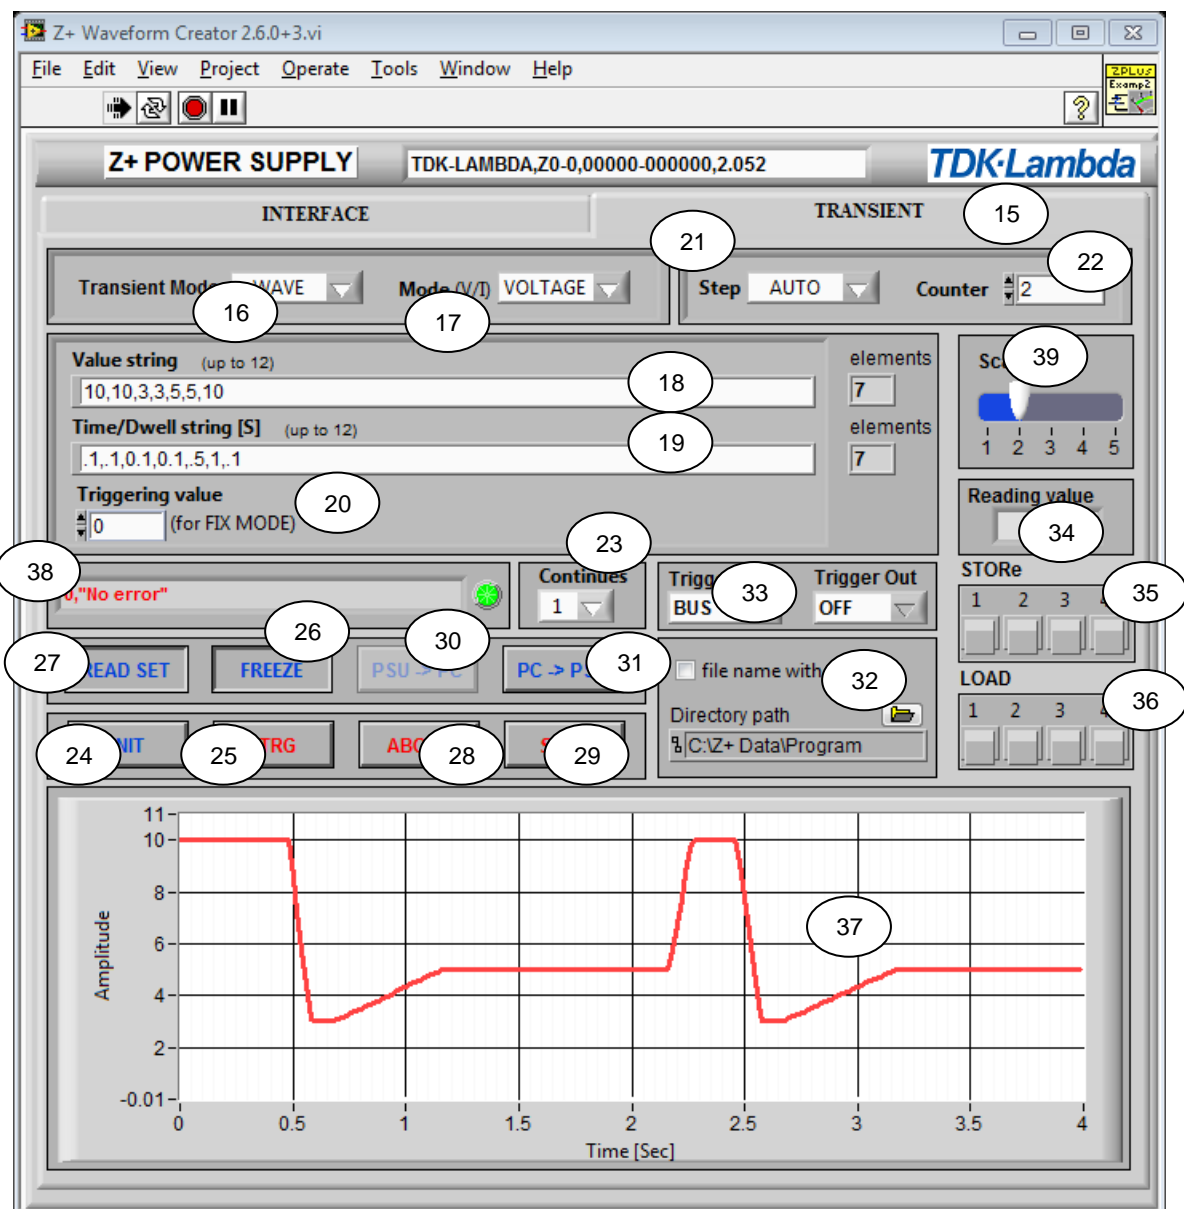

Fig 15
11. The following controls are shown in Fig 15:
- Select Transient Mode (16) Types – WAVE, NONE, FIX, LIST. Example shown – WAVE.
- Mode (17) Types – Voltage, Current, Example shown – VOLTAGE Possible Commands: VOLT (CURR) MODE WAVE/FIX/LIST/NONE. Example shown VOLT:MODE WAVE
- Value String (18) Insert up to 12 values. Elements counter located at the right of the row. Possible Commands WAVE (LIST):VOLT (CURR) x,x,x,x,..... Example shown WAVE:VOLT 10,10,3,3,5,5,10 as WAVE is selected in Transient MODE and VOLT is selected in MODE
- Time/Dwell String (19) Insert up to 12 values. Elements counter located at the right of the row. Possible Commands: WAVE:TIME x,x,x,x,..... LIST:DWEL x,x,x,x,..... Example shown: WAVE:TIME 0.1,0.1,0.01,0.1,0.5,1.0,0.1 as WAVE is selected in Transient MODE